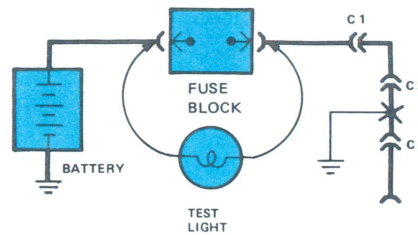

Figure 3 – Short Check
- b) Test light ON: short is in wiring. Find short by disconnecting circuit connectors one at a time. In the example (Figure 3) with a ground at X,